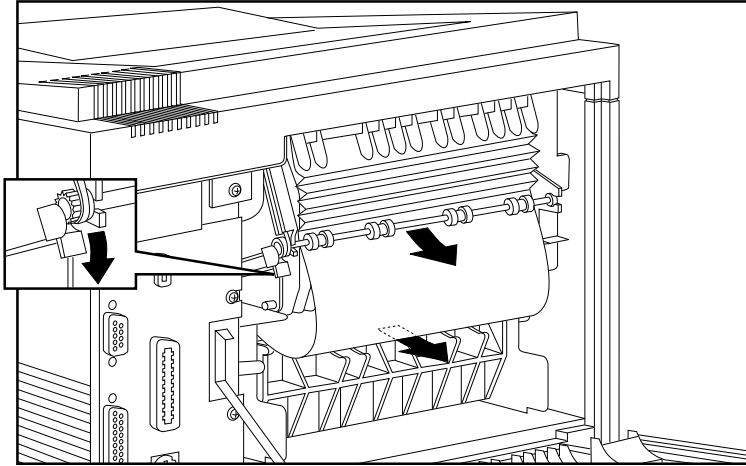

Fig. 10.13 Remove a Jam from the Paper Exit Area
- b. If the media is past the fuser area, press and hold down the green lever on the left to release the paper lock bar. Remove the jam by pulling the media's trailing edge down in the direction of the arrow in figure 10.13, and then release the green lever.